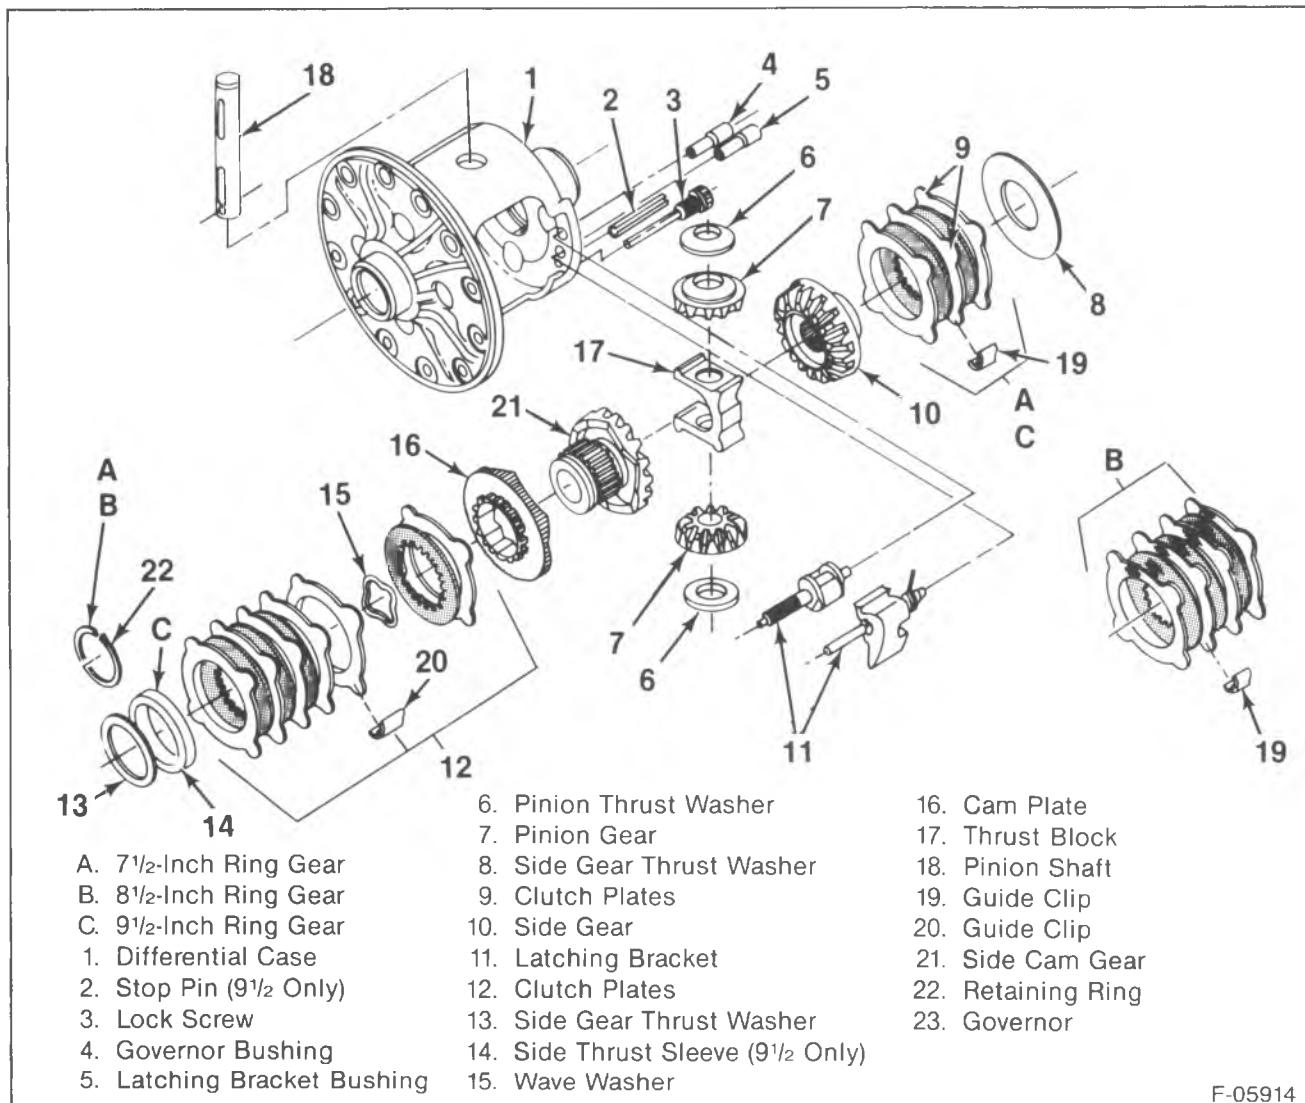
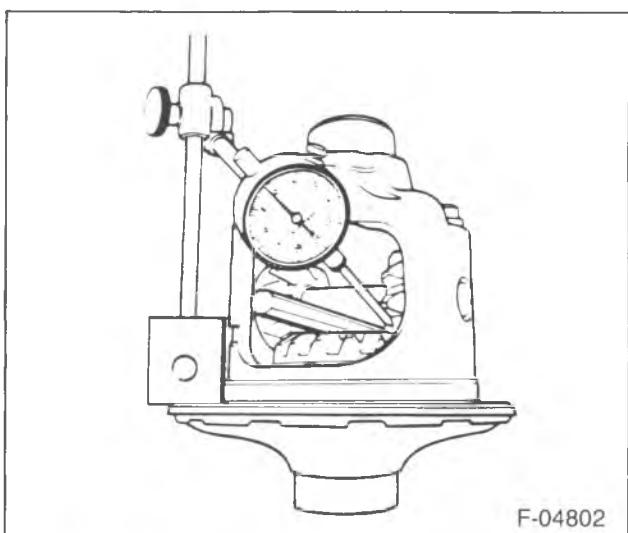
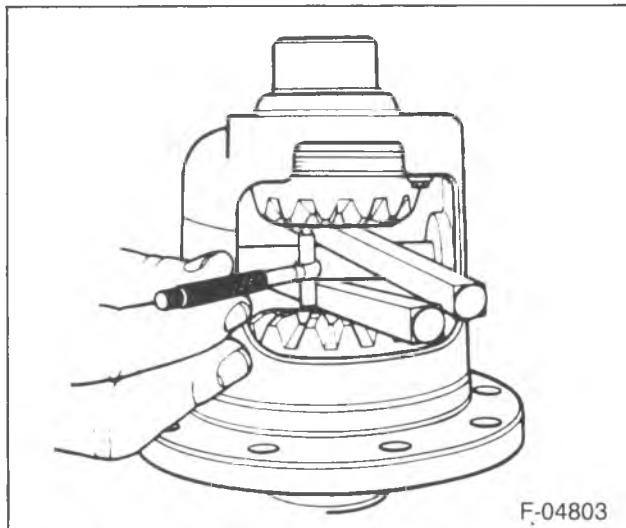

Figure 1—Differential Components
Figure 5—Checking Cam Gear Backlash
Figure 6—Measuring Side Gear Spread
**Remove or Disconnect (Figure 1)**
**Remove or Disconnect (Figures 1 and 3)**
1. Snap ring (22).
3. Guide clips (20).
5. Cam plate (16).
6. Cam side gear (21).
1. Cam plate (16) to the cam side gear (21).
- Alternate the plates as shown in figure 1.
4. Thrust sleeve (14).
5. Guide clips (20) to the plates.
- If the side gear or thrust sleeve has been replaced, measure and record the overall length of the gear assembly from the front of the gear to the back of the thrust sleeve (14) including the side gear washer (13).
1. Install the cam unit and thrust washer (13) to the flange end of the case.
2. Place the pinion gears (7) and thrust washers into the differential.
3. Press down the side gear, and install the pinion shaft (18) and lock screw (3).
6. Mount a dial indicator to the ring gear flange, and place the stem of the indicator on one of the teeth on the pinion gear closest to the lock screw (figure 5).
2. Assemble the guide clips (19) to the plates.
3. Install the thrust washer (8), clutch plate assembly (9), and right side gear to the differential.
4. Place the pinion gears (7) and thrust washers (6) into the differential.
5. Press down the side gear, and install the pinion shaft (18) and lock screw (3).
8. Mount a dial indicator to the ring gear flange, and place the stem of the indicator on one of the teeth on the pinion gear closest to the lock screw (figure 5).
1. Left thrust washer (13) to the differential.
3. Right thrust washer (8) to the differential.
- Assemble alternatively as shown in figure 1.
5. Right side gear (10) to the differential.
6. Pinion shaft (18) and lock screw (3). Insert a large tapered tool such as a screwdriver firmly between each side gear and the pinion shaft.
- Measure the side gear spread (figure 6).
► Install or Connect (Figure 1)
1. Left thrust washer (13).
3. Right thrust washer (8).
4. Right clutch plates with guide clips (19).